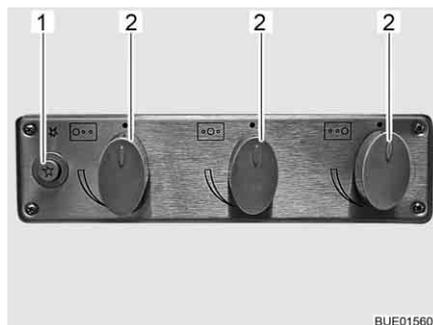

Fig. 157 Operating controls for gas cooker
- Turn the control knob (Fig. 157,2) on the burner you wish to use to the ignition position (large flame).
- Press the push button (Fig. 157,1).